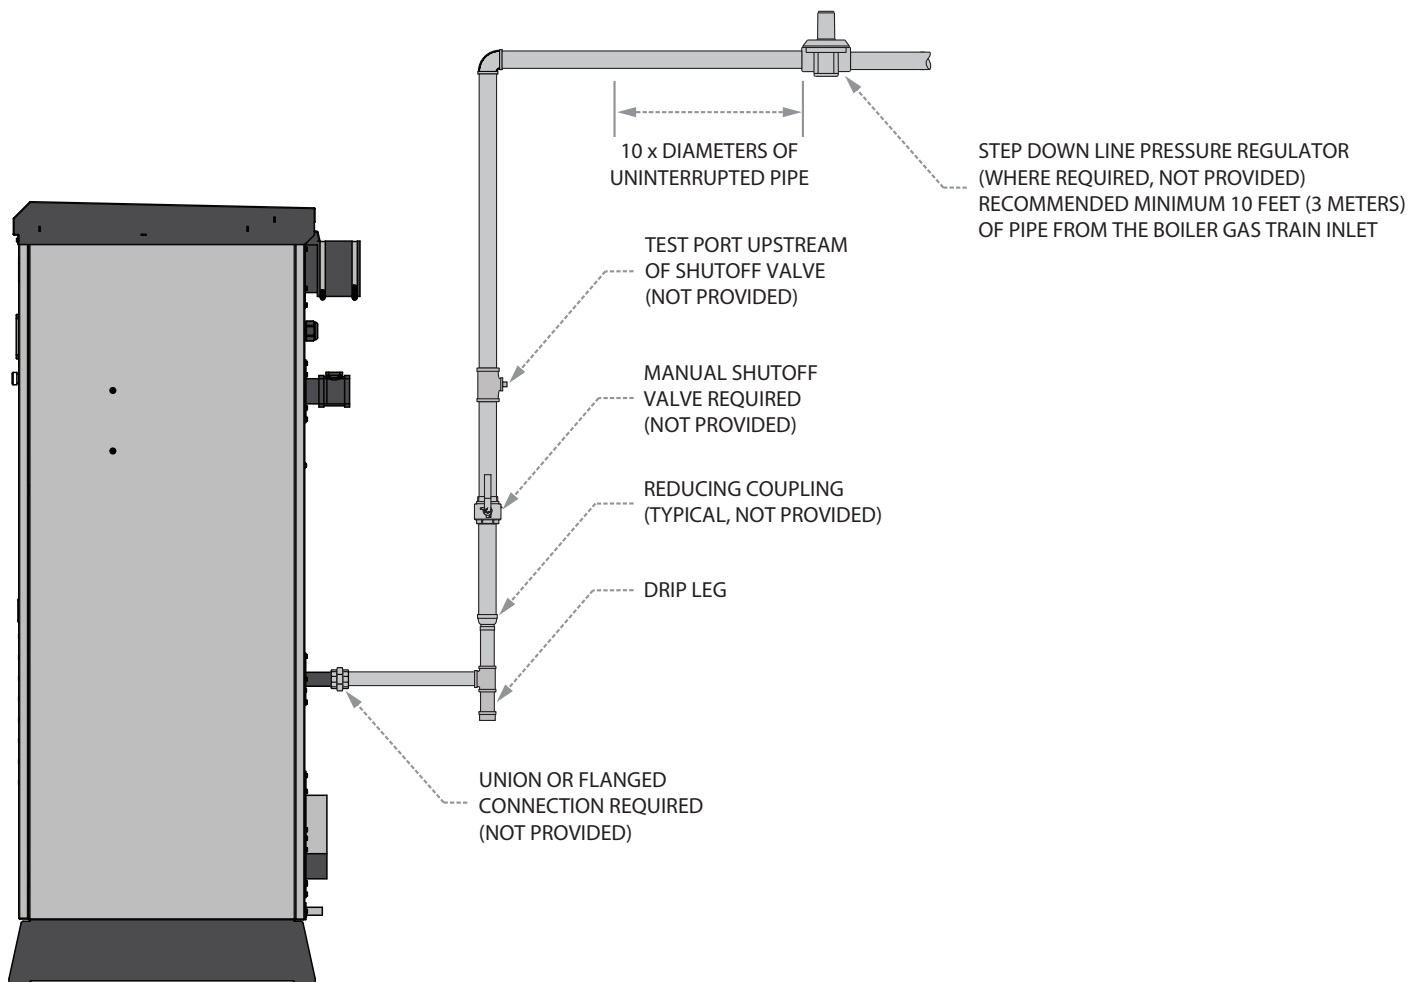

FIGURE 9 - FIELD GAS SUPPLY PIPING
1. See **Table 3** for required natural gas pipe size, based on overall length of pipe from the meter plus equivalent length of all fittings. Approximate sizing may be based on 1,020 BTU for 1 cubic foot of natural gas. See **Figure 9** for the typical field piping arrangement.